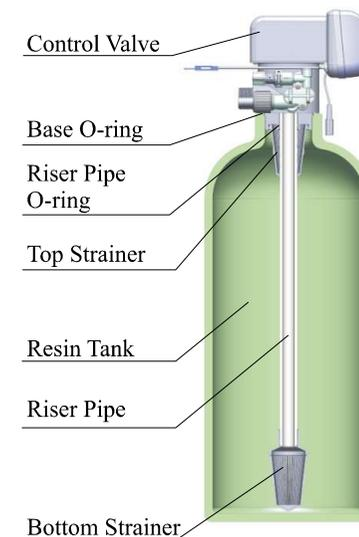

Figure1-1
- ①The filter or softener should be located close to the drain.
- ②Ensure the unit is installed in enough space for operating and maintenance.
- ③Brine tank needs to be close to softener.
- ④The unit should be kept away from the heater, and not be exposed outdoor. Sunshine or rain will cause the system damage.
- ⑤Please avoid to install the system in one acid/alkaline, Magnetic or strong vibration circumstance, because above factors will cause the system disorder.
⑥Do not install the filter or softener, drain pipeline in circumstance which temperature may drop below 5°C, or above 50°C.
⑦The system should be installed in a place where there will be the minimum loss in case of water leakage.
①Install control valve
a. As the Figure 1-1 shows, select the riser pipe with 26.7mm OD, glue the riser pipe to the bottom strainer and put it into the mineral tank, cut off the exceeding tube out of tank top opening. Plug the riser tube in case of mineral entering.